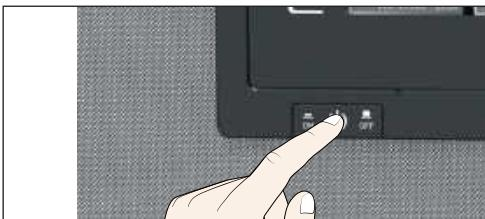

Fig. 26     *Switching off the appliance*
5. Switch off the appliance with the main switch (Fig. 26).